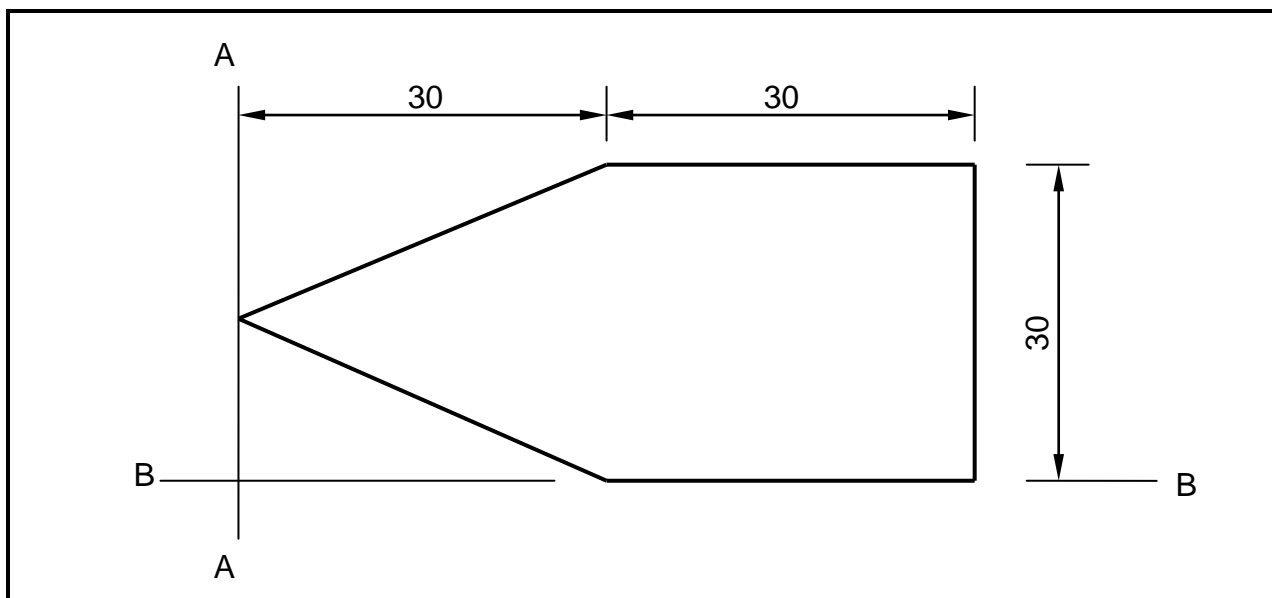

FIGURE 5.2
5.2 FIGURE 5.2 below shows a figure of a shaped lamina.
- 5.2.2 Deduce the position of the centroid from **B–B** from FIGURE 5.2. Round off your answer to TWO decimal places. (2)